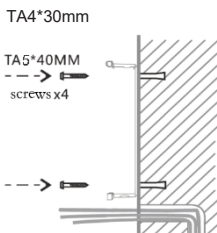

Figure 3-4
A. Align the screw holes of the wall bracket with the drilled holes on the wall, put in the $\phi 6 \times 30$ mm rubber plug, and fix it on the wall with the TA4*30mm screws provided, as shown in Figure 3-4.